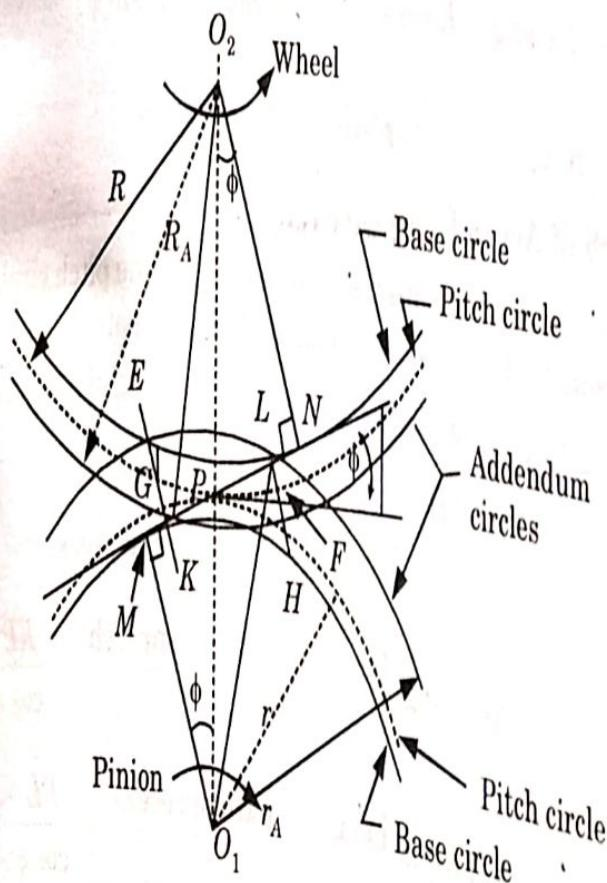

Fig. 2.19.1. Length of path of contact
5. From Fig. 2.19.1,
2. In Fig. 2.19.1, arc of contact is EPF or GPH .